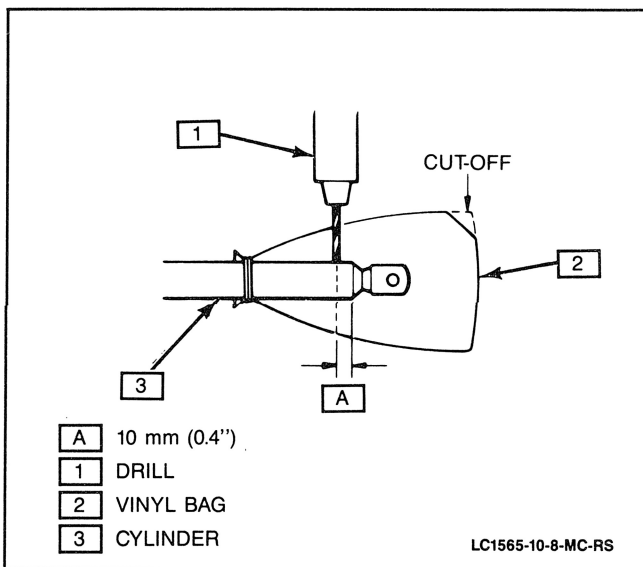

Figure 5 Discarding Cylinder
- c) Release gas pressure by drilling a 2 to 3 mm (0.08 to 0.12-inch) hole through vinyl bag and into support (Figure 5).